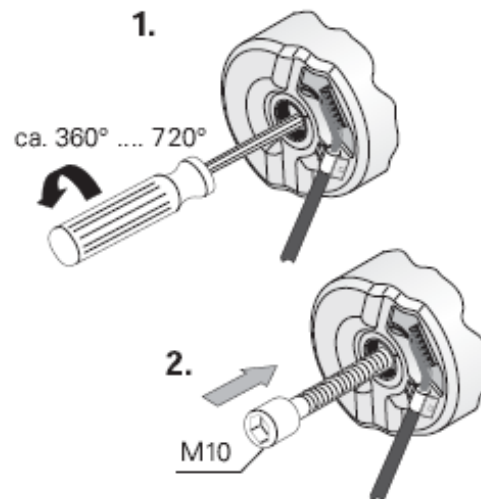

Figure 19: Use M10 bolt to loosen the encoder
5. Rotate counterclockwise the bolt M5x50 1-2 turns with hex wrench 4mm, install the bolt M10 against the encoder with hex wrench 8mm. See Figure 19.